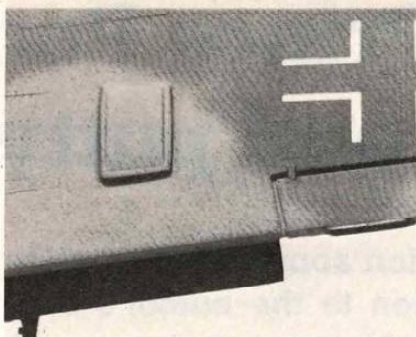

FIG. 12. Focke Wulf FW-190F-8s did not carry cannons in the outer wing sections, but did have a breech cover on the top of each wing half.
**Outer wing cannon breech covers**—In addition to two inboard 20 mm cannons, most FW-190s carried two outer 20 mm cannons, one on each wing half. These outer cannons were not used on the FW-190F-8, though the standard breech covers were present on the top of the wing, fig. 12. Therefore, I removed the outer cannons on the upper wing pieces and made breech covers from scrap plastic.